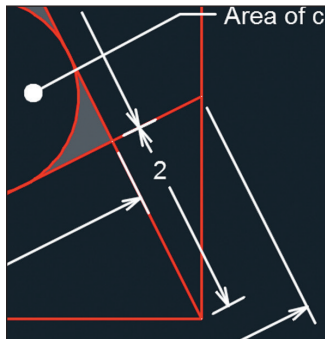

FIGURE 11.23 Changing dimension text justification with `DIMTEDIT`
7. Type `L` (for Left) and press Enter. The dimension text is now left-justified in relation to the dimension line, so the 2 is more easily read within the space left between the red lines (see Figure 11.23).